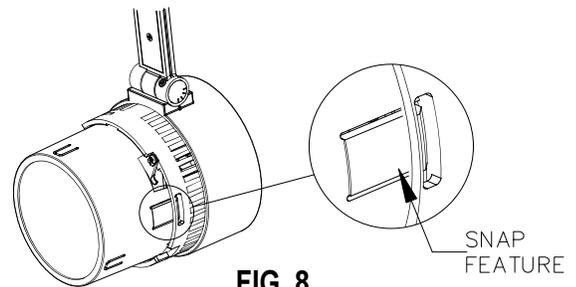

FIG. 8
3. Push REFLECTOR HOLDER into the front face of the HEAT SINK until SNAP FEATURES are secure within the designated slots. (FIG. 8)